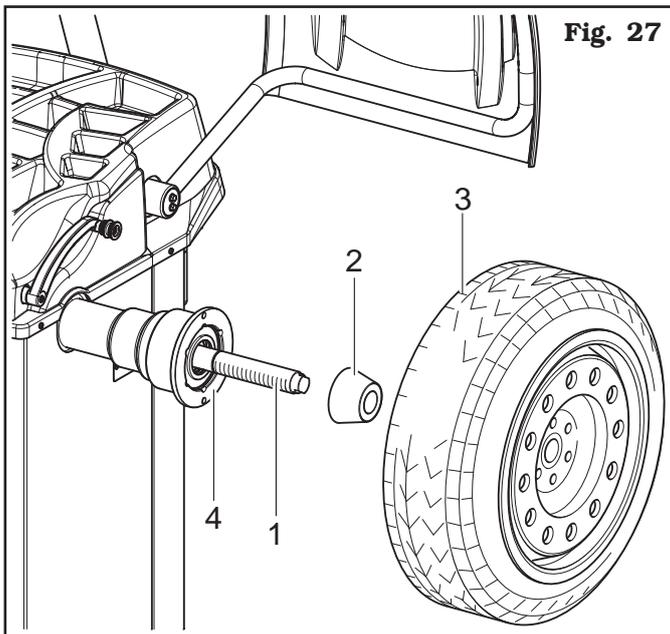

Fig. 27
1. Remove any type of foreign body from the wheel (**Fig. 27 ref. 3**): pre-existing weights, stones and mud, and make sure the mandrel (**Fig. 27 ref. 1**) and the rim centring area are clean before fitting the wheel on the mandrel.
2. Carefully choose the cone (**Fig. 27 ref. 2**) most suitable for the wheel to be balanced. These accessories must be selected according to the shape of the rim. Position the wheel (**Fig. 27 ref. 3**), fitting the cone (**Fig. 27 ref. 2**) on the mandrel (**Fig. 27 ref. 1**): be careful (otherwise this could seize) until this rests against the support flange (**Fig. 27 ref. 4**).